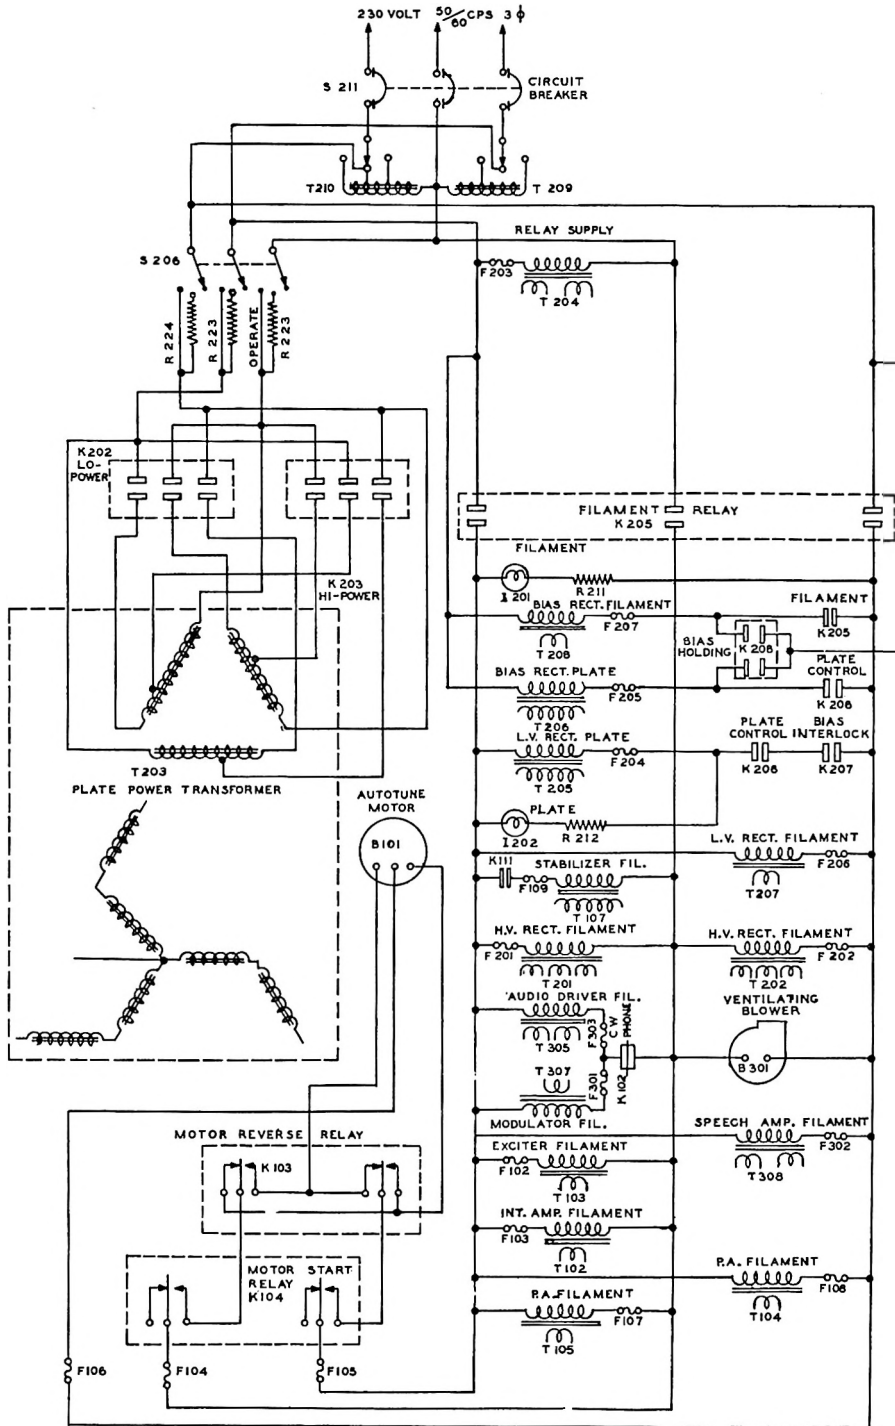

Figure 3. A-C Primary Circuits
2.3. A-C PRIMARY CIRCUITS. Refer to figure 3. The transmitter has been designed to operate from a 230-volt 50/60-cps 3-phase power source. A circuit breaker, S211, is connected in the primary power line to permit the complete disconnecting of the primary power from the transmitter circuit. Two autotransformers, T209 and T210, are connected across the three-phase line so that voltage adjustments may be made to compensate for high- or low-power source voltage. The three-phase power is applied to the autotransformers by the operation of the circuit breaker, S211.
During the time that tuning adjustments are being made with the TUNE-OPERATE switch in the H. V. TUNE position, resistors are connected in series with the leads to the transformer primary and in series with the intermediate voltage lead. Refer to figure 3.